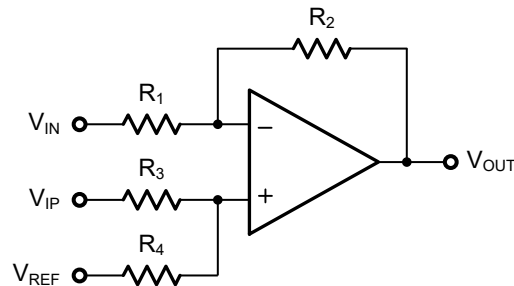
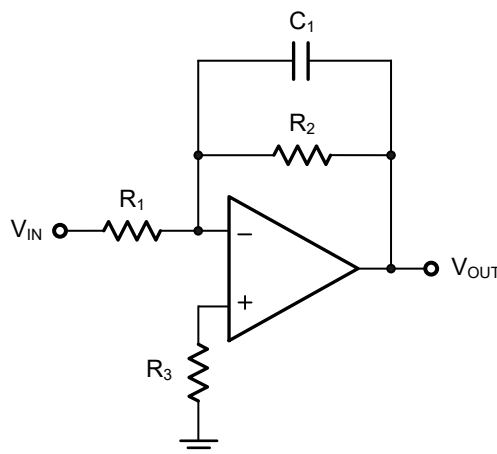

Figure 4-1 Differential Amplifier
Figure 4-2 Low Pass Active Filter
The SNA872XA family is optimized for bandwidth and speed, not for driving capacitive loads. Output capacitance will create a pole in the amplifier's feedback path, leading to excessive peaking and potential oscillation. If dealing with load capacitance is a requirement of the application, the two strategies to consider are (1) using a small resistor in series with the amplifier's output and the load capacitance and (2) reducing the bandwidth of the amplifier's feedback loop by increasing the overall noise gain. Figure 4-1 shows a unity gain follower using the series resistor strategy. The resistor isolates the output from the capacitance and more importantly, creates a zero in the feedback path that compensates for the pole created by the output capacitance.
The circuit in Figure 4-2 is an improvement to the one in Figure 4-1. R_F provides the DC accuracy by feed-forward the V_{IN} to R_L . C_F and R_{ISO} serve to counteract the loss of phase margin by feeding the high frequency component of the output signal back to the amplifier's inverting input, thereby preserving the phase margin in the overall feedback loop. Capacitive drive can be increased by increasing the value of C_F . This in turn will slow down the pulse response.